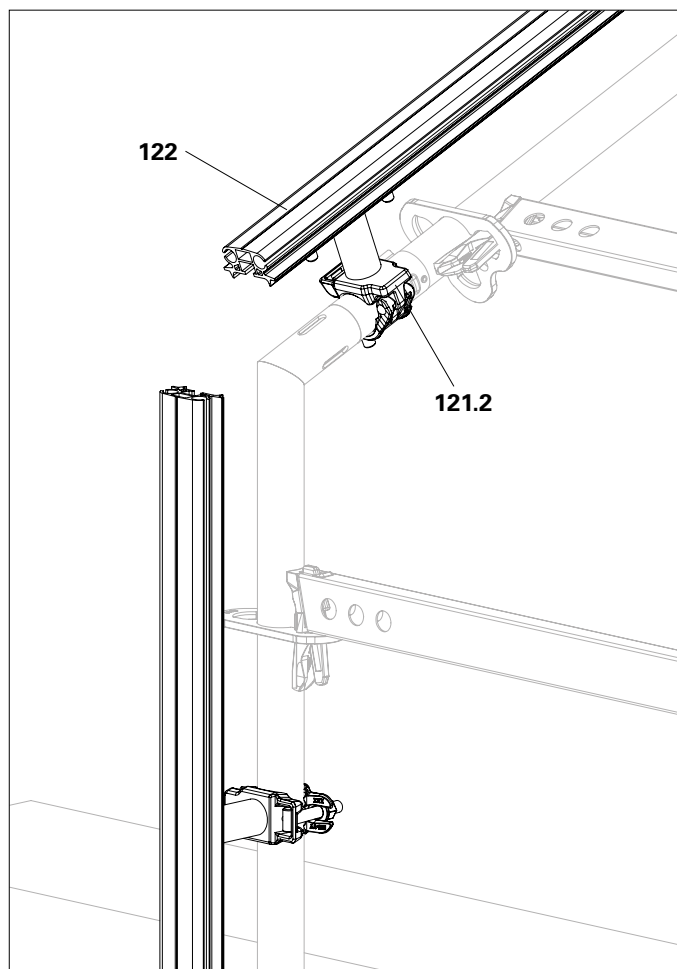

Fig. A14.02
3. Install pre-assembled keder rails with the coupling side (**121.2**) of the keder connector on the respective vertical. (Fig. A14.02)